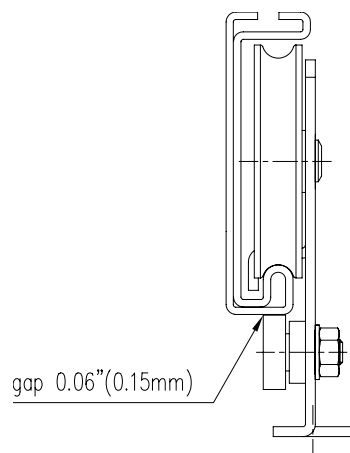

Figure 28 Space Between Roller and Rail
6. Check that there is a space of 0.06" (0.15 mm) between the roller and the rail. See Figure 28.